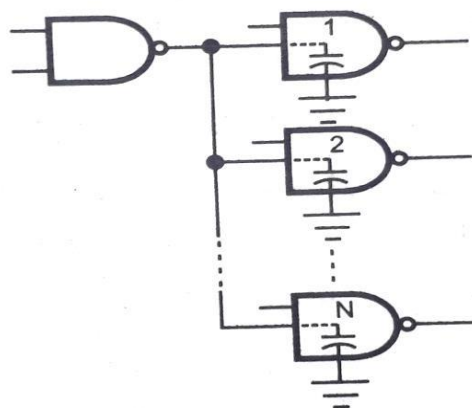

Figure 1.31: One CMOS output driving several CMOS inputs
- The CMOS inputs have an extremely large resistance (10^{12}) that draws essentially no current from signal source, each CMOS input, however, typically presents a 5 pF load to ground as shown in figure 1.31